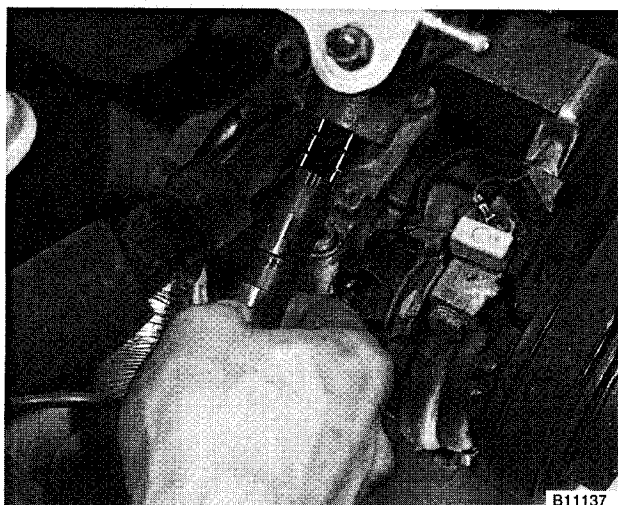

Fig. 34. Primary timing chain tensioner being installed. Piston cutout must be in position shown to engage chain rail.
11. On 1992 engines: Install primary chain tensioner so that cutout in tensioner piston engages chain rail. See Fig. 34. Check that chain is free of slack.
20. On 1993 and later engines: Remove BMW special tool 11 3 390 (dummy tensioner). Install primary chain tensioner so that cutout in tensioner piston engages the chain rail. See Fig. 34. Install and tighten access plugs in VANOS control unit.